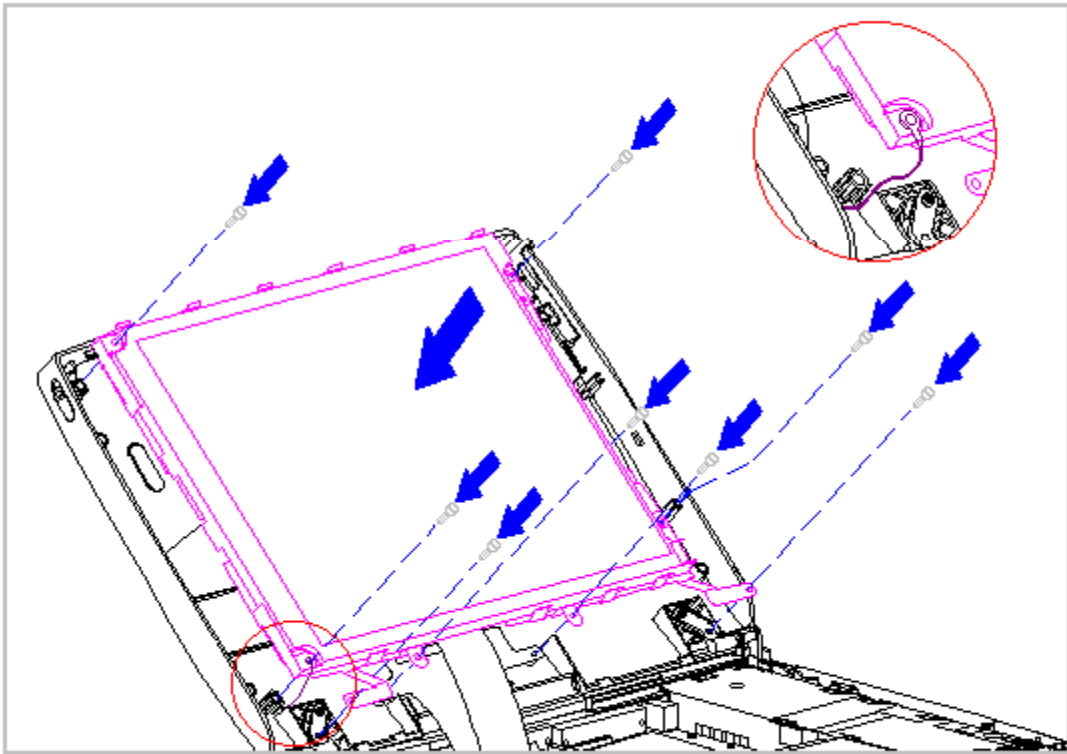

Figure 5-95. Replacing the CSTN (10.4 in) Panel and the Display Shield
5. Align the CSTN (10.4 in) panel, display cable, and shield in the display enclosure and replace the screws. Before replacing the screw in the lower-left corner, route the XOVER board ground wire around the boss at the bottom of the display enclosure. Hold the end of the wire over the screw hole and install the screw, attaching the wire. Ensure that the ZIF connector end of the display cable and the end of the display ground cable are exposed at the bottom of the display enclosure (Figure 5-95).